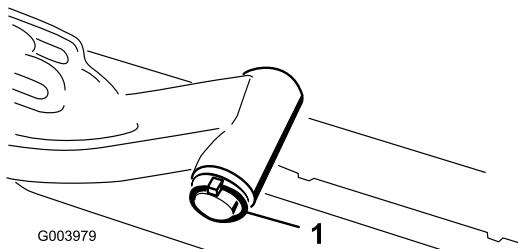

Figure 12
- A. Remove the lynch pin and washer securing the lift-arm-pivot shaft to the lift arm and slide the lift-arm-pivot shaft out of the lift arm (Figure 12).